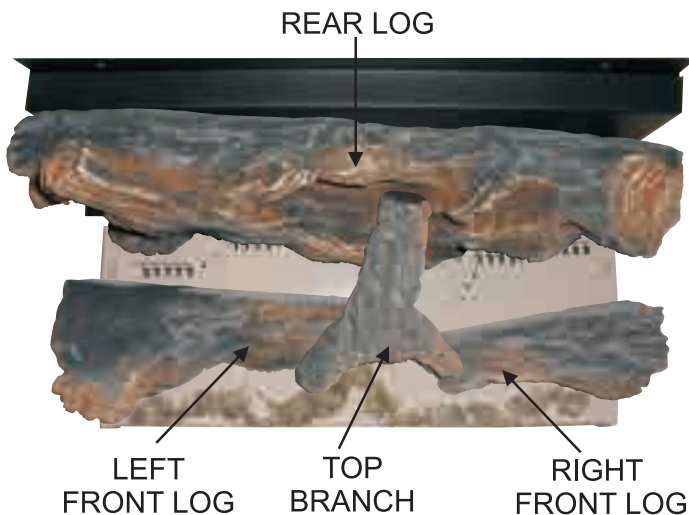

Figure 25 - Log Placement - Top View (DVP20CC Shown)
5. Place ember material on front burner ports as shown in Figure 25.
*Place ember material on front burner ports as shown in Figure 25.